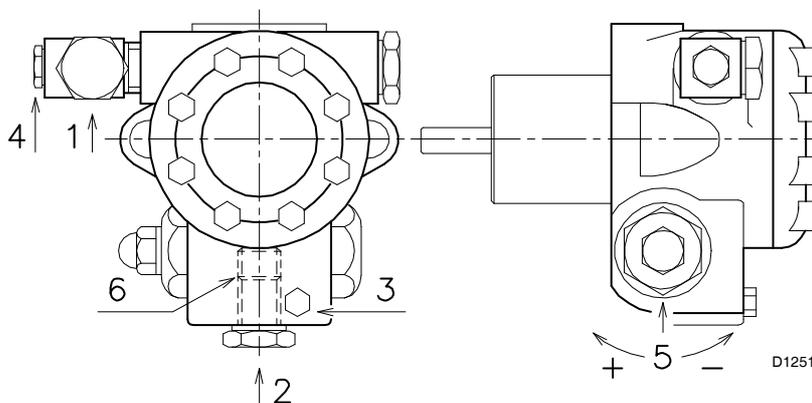

Fig. 19
- In order for self-priming to take place, one of the screw 3) (Fig. 19) of the pump must be loosened in order to bleed off the air contained in the suction line.
In order to adjust pump pressure, use the relevant screw 5) (page 17, Fig. 19)